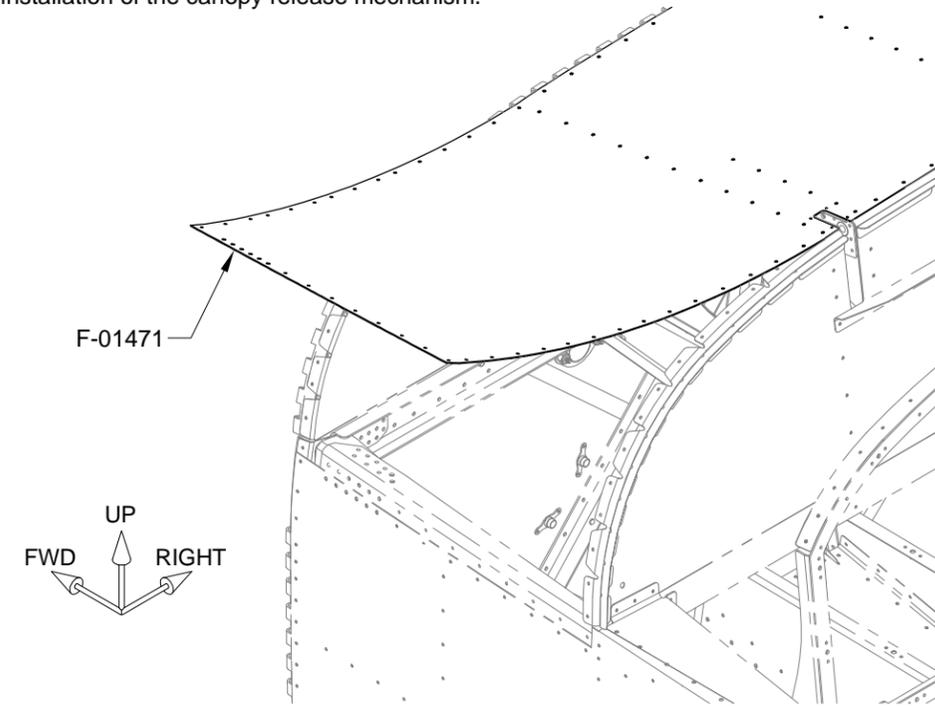

FIGURE 3: UPPER FORWARD FUSE ACCESS
Step 5: Pull up the F-01471 Forward Top Skin as shown in Figure 3, to gain access for installation of the canopy release mechanism.